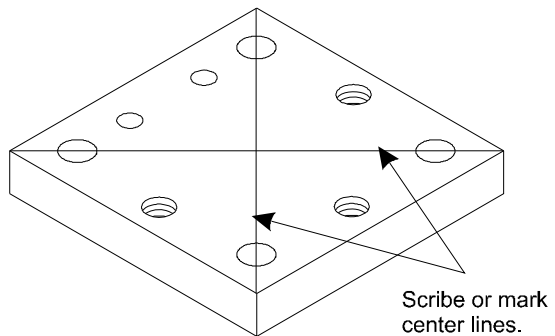

FIG. 15: MARKING THE TOP PLATE FOR INSTALLATION
- Step 2. We recommend scribing or marking a centerline on the top plate. (See Fig. 15)